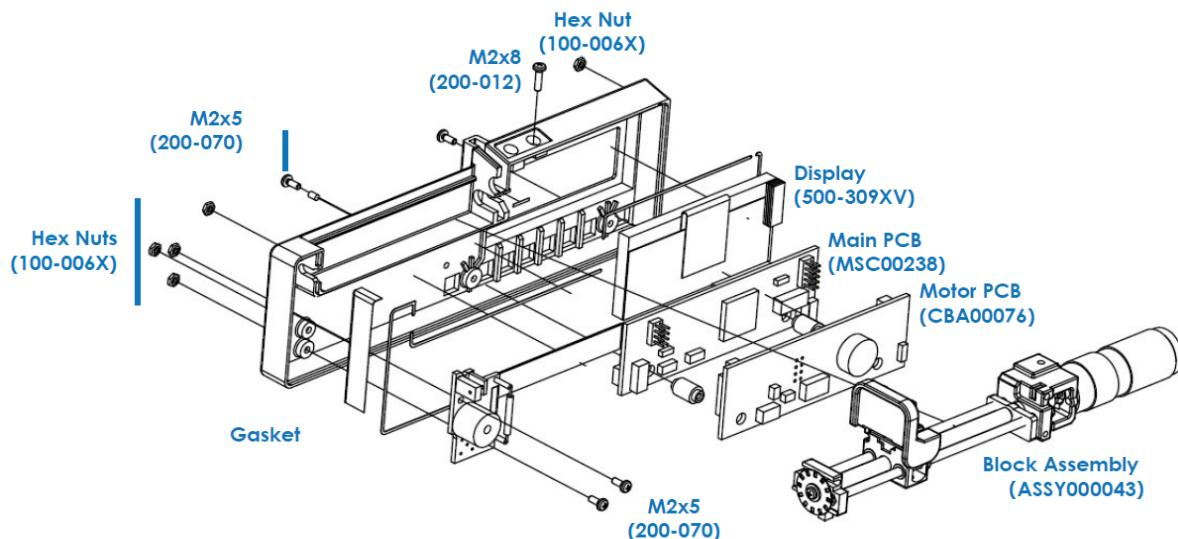

Figure 6-30. Front Assembly (300-031S)
- c. Insert and secure the main PCB and encoder PCB units: two screws in the encoder PCB and two screws that secure the main PCB via spacers (see Figure 6-30 and Figure 6-31), for a total of four M2x5 screws.